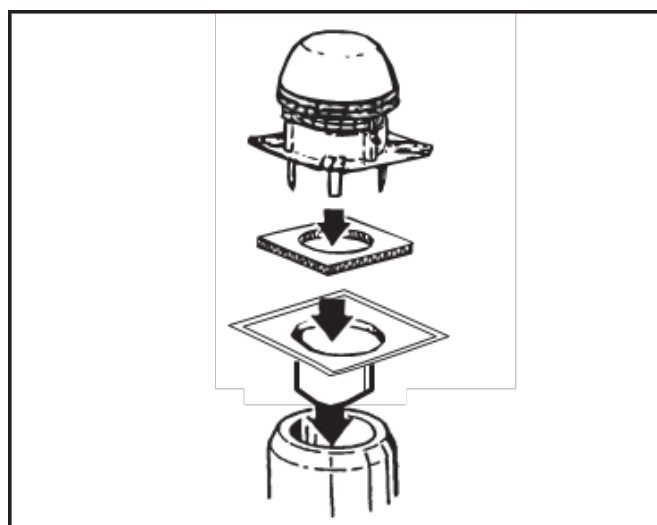

FIGURE 29
7. The chimney fan is now ready for installation on the top of the chimney. Place the fiber mat with the aluminum foil facing upwards on the top of the MFD and place the fan on top of the mat. High temperature silicone can be applied on the side of the mat but is not required. It can also be painted. Use the mounting holes on the fan base as a drill template to make one mounting hole in each corner of the adapter. Use bolts and locking nuts to secure the fan to the MFD. **(Figure 29)**